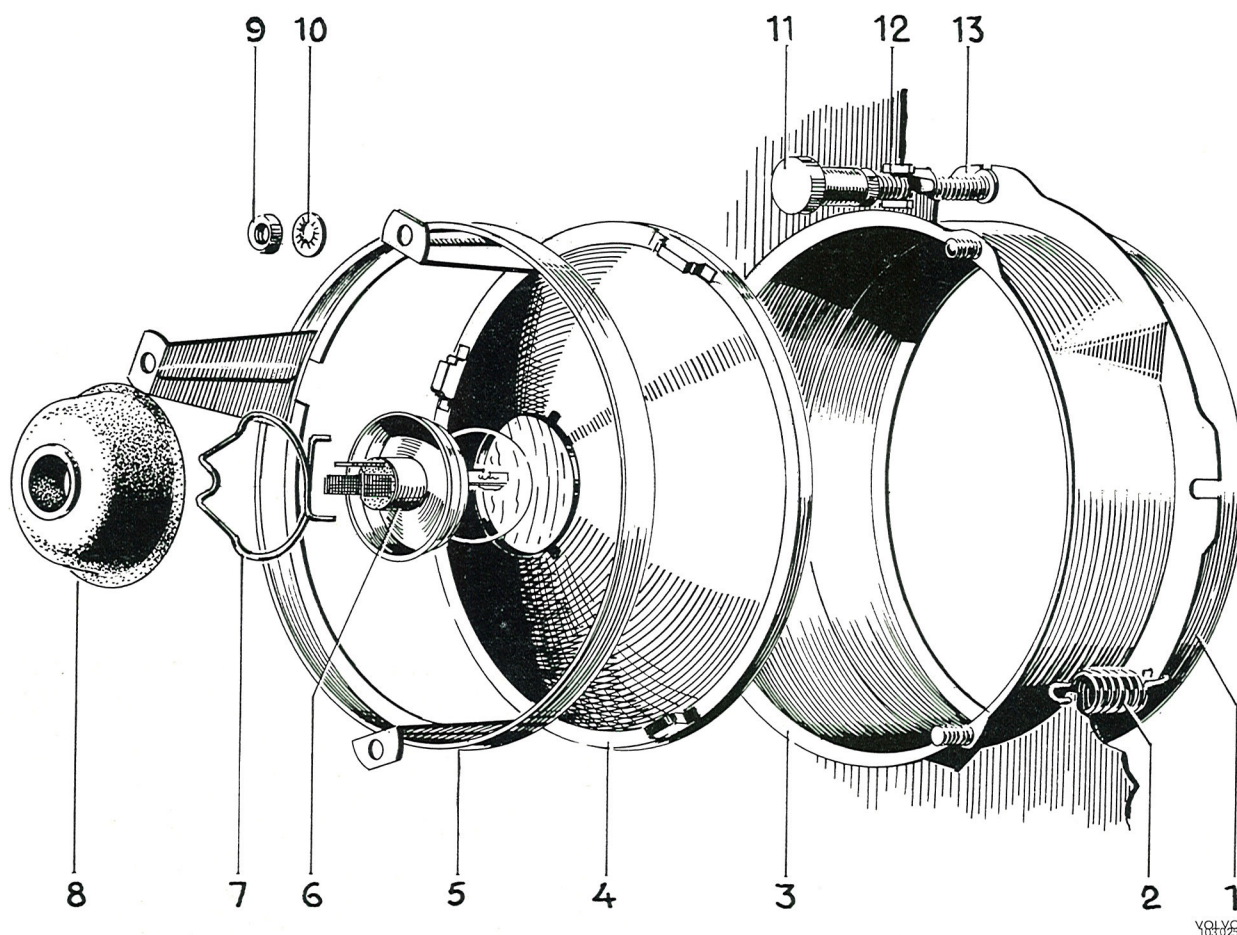

Fig. 3-59. Headlight
The lighting consists of two full- and dipped-beam headlights, Fig. 3-59, parking lamps, rear lamps and number plate light.
2. Remove the three nuts (9, Fig. 3-59) and lift out the inner ring. Remove the insert bulb.